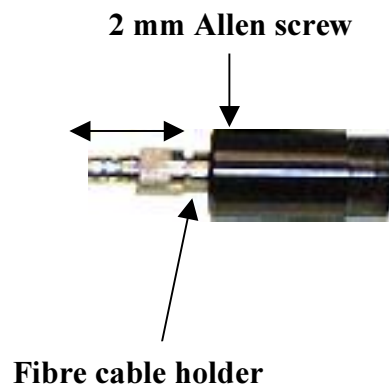

Fig 25
- 3) Loosen the 2mm Allen screw on the lens holder. See Fig 25.